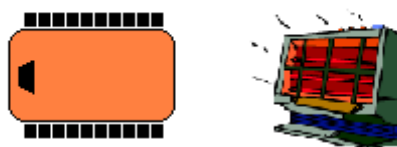

**Figure 2: Robot homing**
3. Based upon the above model, write code to home the Traxster robot to the heat source (see Figure 2). The robot should come within one foot of the beacon without touching it.